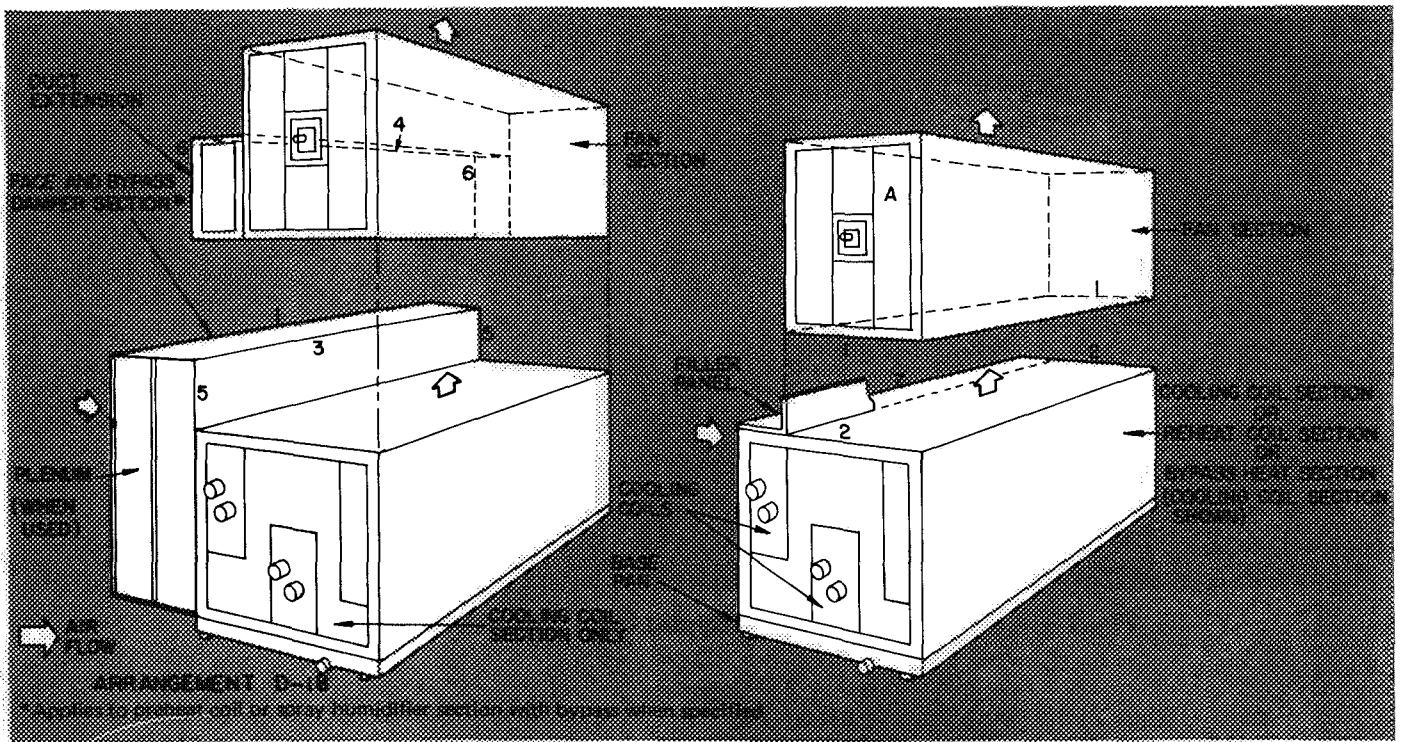

Fig. 5 – Base Unit Assembly for 39BA, BB130-140 and 39BC135, 140 (Arrangement D)
UNITS 39BA, BB SIZES 130 THRU 140 AND 39BC SIZES 135 AND 140 (Arrangement D, except D-18) – Refer to Fig. 5 and Table 3.
- a. Place filler panel, removed from cooling coil section per Accessory Assembly, along flange 7 of accessory section and butt against fan section per Fig. 5.